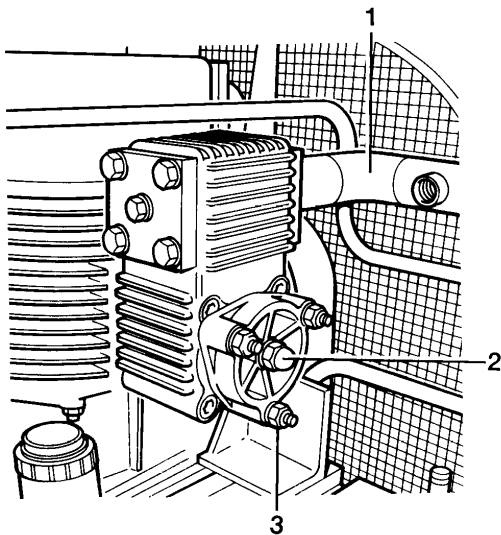

Fig. 41 2nd stage valve head
- The 2nd stage valves are located directly on the side of the 1st/2nd stage cylinder, Fig. 41. One inlet and one outlet valve are provided.